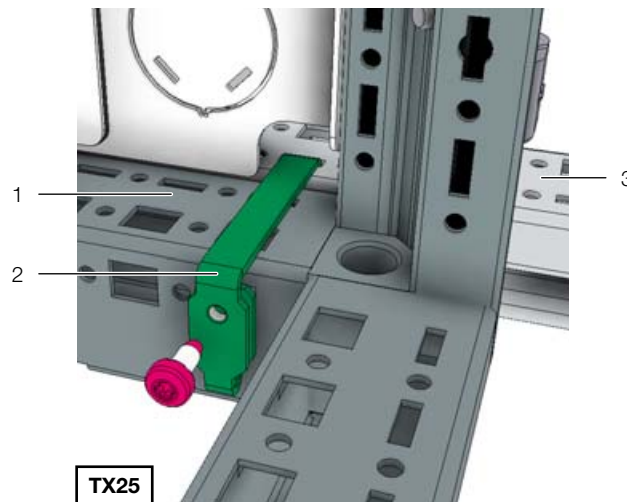

Fig. 30: Connection element in the rear area
- Place a connection element (fig. 30, item 2) between the frames of the LCP Inline of the server enclosure in the rear area.